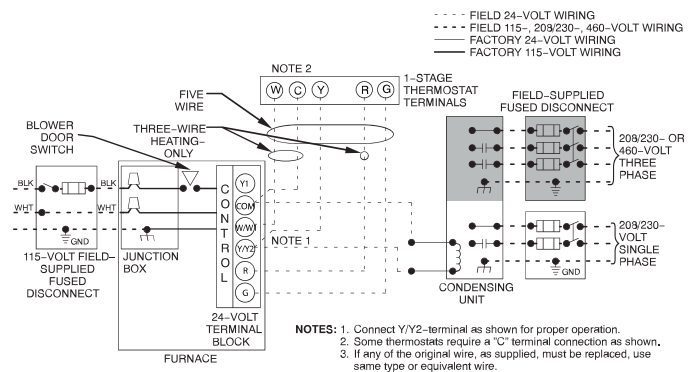

Fig. 34 – Typical Field Wiring Diagram
See Fig. 34 for field wiring diagram showing typical field 115V wiring. Check all factory and field electrical connections for tightness.
6. Connect power cord power and neutral leads to furnace power leads as shown in Fig. 34.
5. Connect field power and neutral leads to furnace power leads. as shown in Fig. 34.